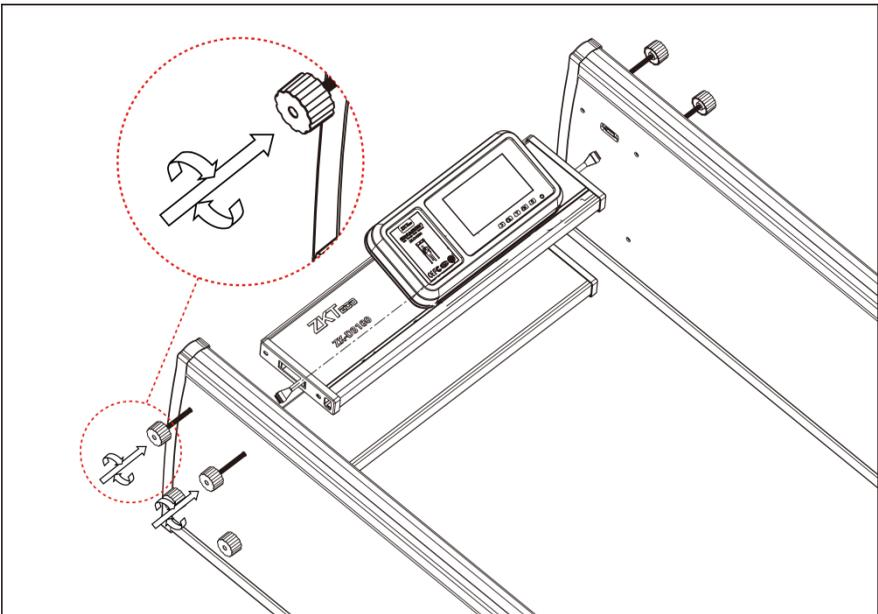

Figure 3-9
Step 9: Connect the front cross beam with the left and right door panels with bolts and tighten all the bolts, as shown in the figure 3-9 below.